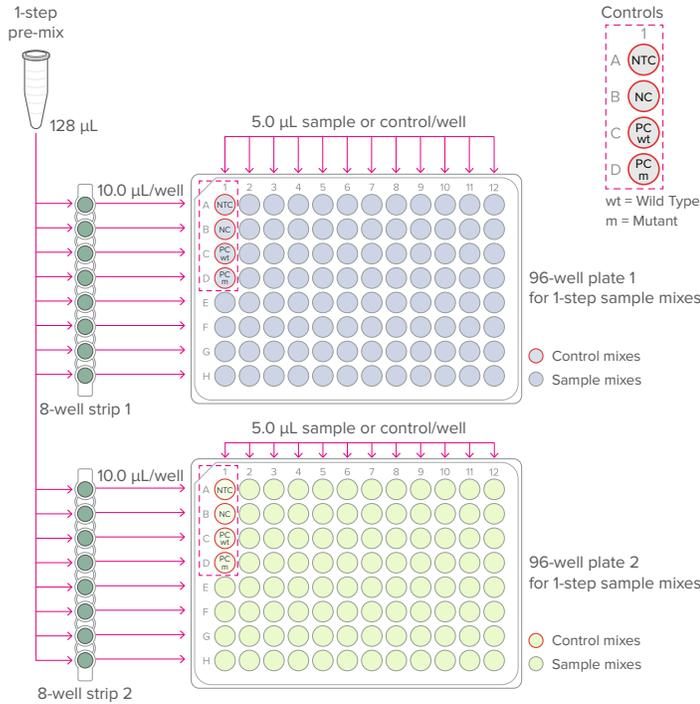

Figure 2. 1-step reaction plates (per-well transfer volumes)
- Prepare the 1-step reaction plates as shown in Figure 2 on page 3.